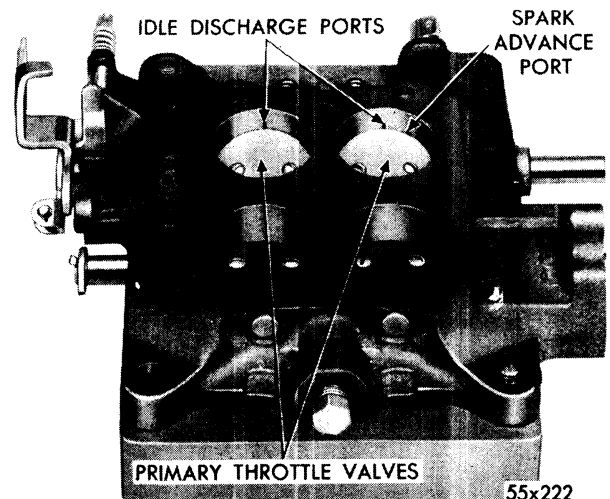

Fig. 8—Ports in Relation to Primary Throttle Valves
- (4) During manufacture, the location of the idle transfer port and the spark advance control port to the valves is carefully established for one particular assembly (See Fig. 8). If a new shaft should be installed in an old, worn throttle body, it would be very unlikely that the original relationship of these ports to the valves would be obtained. Changing the port relationship would adversely affect normal carburetor operation between the speeds of 15 and 30 miles per hour. If it has been decided that new shafts are to be installed, adhere closely to the following instructions: